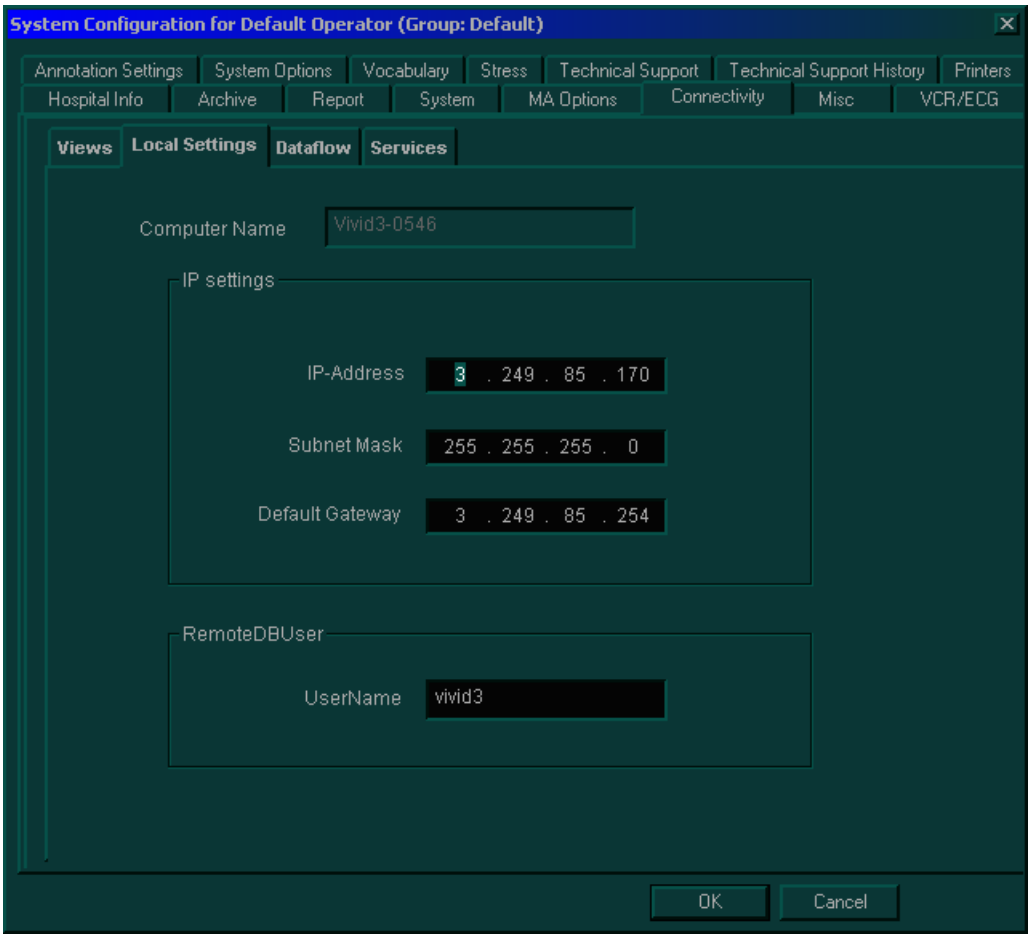

Figure 4-6 Connectivity Local Settings Tab Configuration - Example
Before returning the Vivid 3N ultrasound scanner to regular operational use, the System Configuration settings should be checked. In 2D-Mode, press **Config** on the keyboard and check the settings in accordance with those listed in Table 4-42 below, referring also to Figure 4-1 through Figure 4-6.
**NOTE:** The figures in this section (Figure 4-1 through Figure 4-6) show example configurations and should be used for reference only, as each site has its own specific settings.